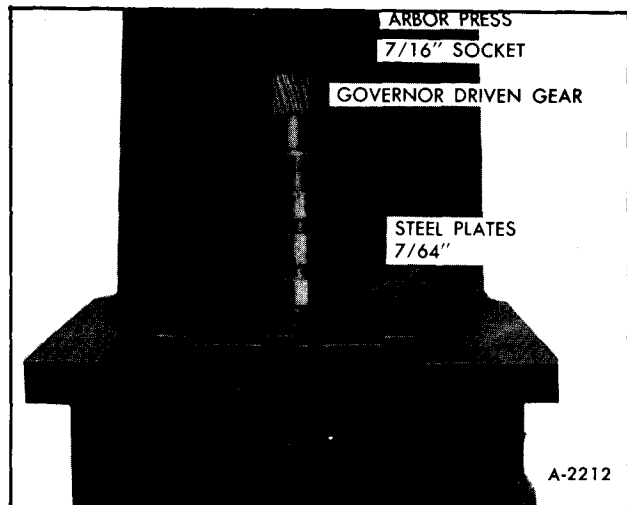

Figure 104—Installing Governor Gear
5. Support governor on 7/64" plates, installed in exhaust slots of sleeve, position new gear in sleeve and with a 7/16" socket, press gear into sleeve until seated. See Figure 104.